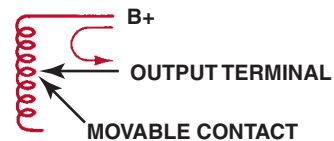

FIGURE 3-27 A two-wire variable resistor is called a rheostat.
- Another type of mechanically operated variable resistor is the **rheostat**. A rheostat is a two-terminal unit in which all of the current flows through the movable arm. ● **SEE FIGURE 3-27.** A rheostat is commonly used for a dash light dimmer control.